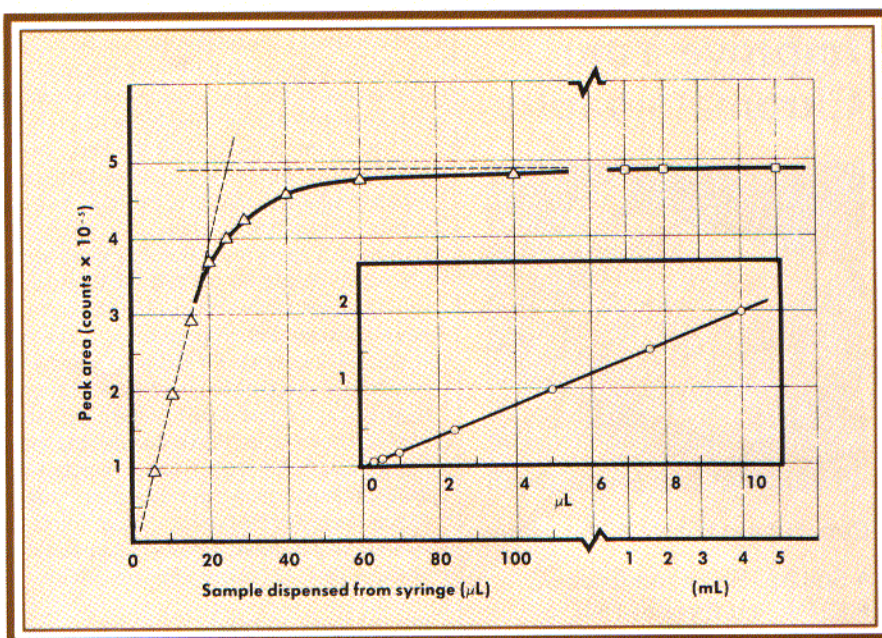

FIGURE 2: Linearity of filling using partial-loop injection technique. (Courtesy of Rheodyne, Cotati, California.)
Figure 2 illustrates the relationship between sample loaded into the loop and sample injected onto the column (as determined by peak-area measurements). When $<10 \mu\text{L}$ of sample is placed in a 20- μL loop, there is a linear relationship between volume placed in the loop and amount of sample injected; when $>40 \mu\text{L}$ is used, the injected volume is $\pm 5\%$ of loop volume. In the 10–40 μL range, however, a nonlinear relationship is in evidence (4). This is the basis for recommending use of less than 50% of loop capacity (partial-loop injection) or more than two times loop capacity (filled-loop injection) for maximum injection precision.